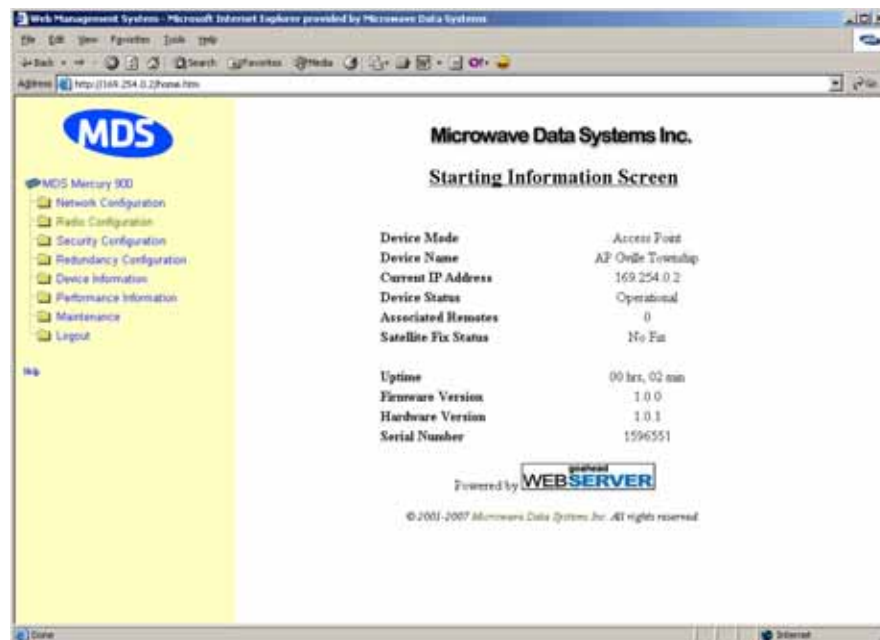

Figure 3-8. Starting Information Screen □ Web Browser Example
- Click **OK**. The unit responds with a startup menu screen similar to that shown in Figure 3-8. From here, you can review basic information about the unit or click one of the menu items at the left side of the screen.